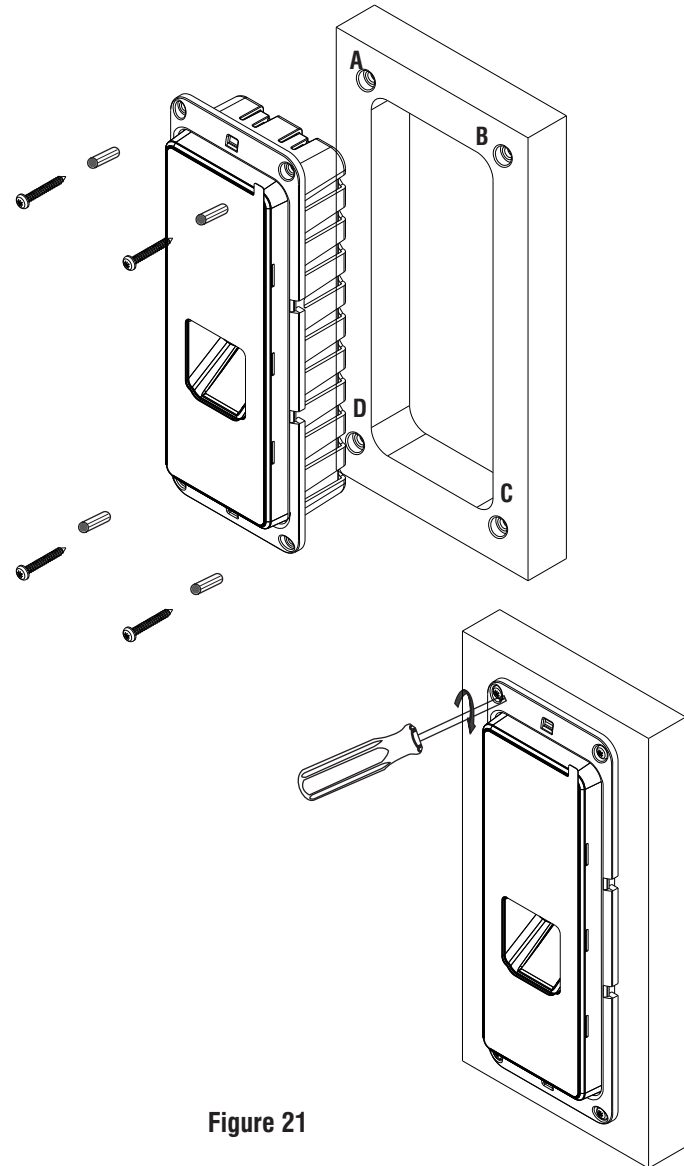

Figure 21
Step 4: Affix the Surface Mount Plate with the Device on the surface with the help of the screws and screw grips through the holes **A, B, C** and **D**, see **Figure 21**.